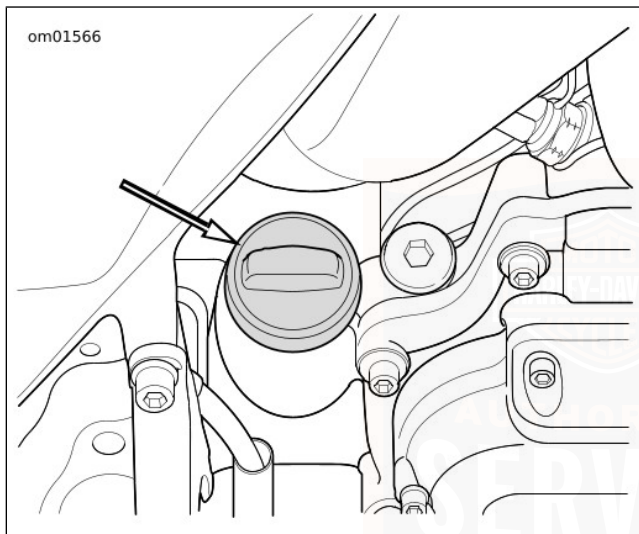

Figure 46. Engine Oil Filler Plug
2. See Figure 46. Remove filler plug/dipstick. Wipe off the dipstick. Insert the dipstick and tighten into the fill spout.
3. See Figure 46. Remove filler plug/dipstick and wipe off the dipstick. Insert the dipstick and tighten into the fill spout.